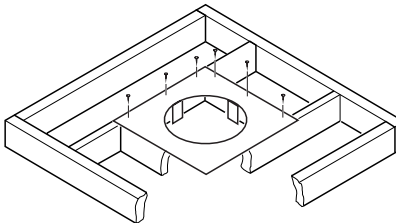

**Figure 21 - Offset with Wall Strap and 45° Elbows**
1. Determine the route your vertical venting will take. If ceiling joists, roof rafters, or other framing will obstruct the venting system, consider an offset (see Figure 21) to avoid cutting load bearing members. **Note:** Pay special attention to these installation instructions for required clearances (air space) to combustibles when passing through ceilings, walls, roofs, enclosures, attic rafters, etc. Do not pack air spaces with insulation. Also note maximum vertical rise of the venting system and any maximum horizontal offset limitations. Offsets must fall within the parameters shown in Figure 8 on page 6.
**Note:** If an offset is needed to avoid obstructions, you must support the vent pipe every 3 feet. Use wall straps for this purpose (see Figure 21). Whenever possible, use 45° elbows instead of 90° elbows. The 45° elbow offers less restriction to the flow of the flue gases and intake air.
5. Place the flashing over the pipe section(s) extending through the roof. Secure the base of the flashing to the roof and framing with roofing nails. Be sure roofing material overlaps the top edge of the flashing as shown in Figure 21. There must be a 1" clearance from the vent pipe to combustible materials.